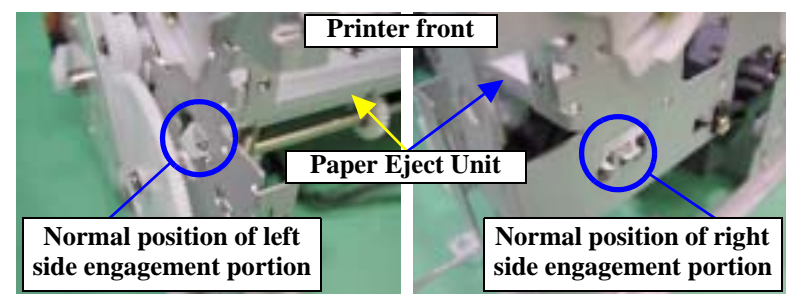

Figure 4-45. Normal Positions of Paper Eject Unit Engagement Portions
- After reinstalling the Cutter Support, make sure that it is in the normal position since the Paper Eject Unit left side may come off the engagement portions with the Left and Right Frames and shift to the printer left side during installation of the Cutter Support. Refer to Figure 4-45, "Normal Positions of Paper Eject Unit Engagement Portions".